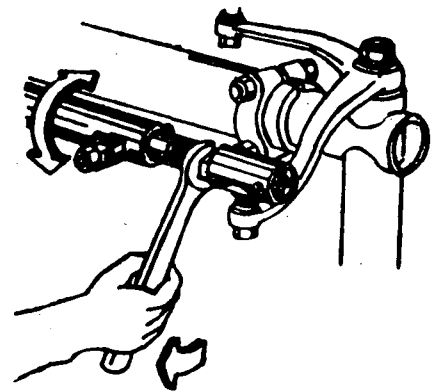

Fig. 4
- b) Turn the tie rod to screw or unscrew it from its end (Fig. 4). Turn it until the specified measurement is reached.